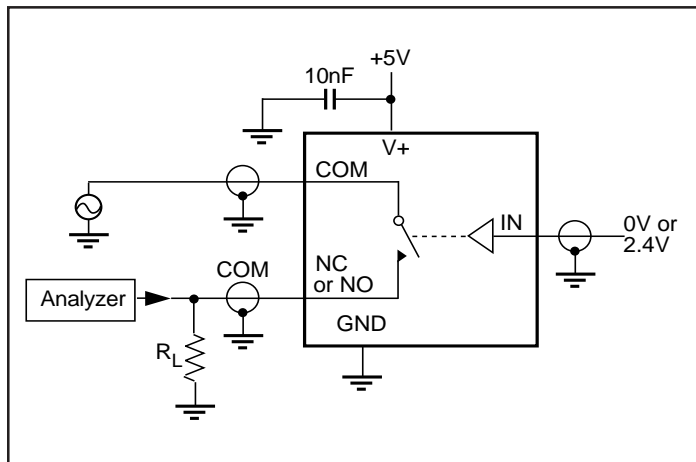

Figure 5. Off Isolation
- Off Isolation = $20 \log_{10} [V_{COM} / (V_{NC} \text{ or } V_{NO})]$. See Figure 5.